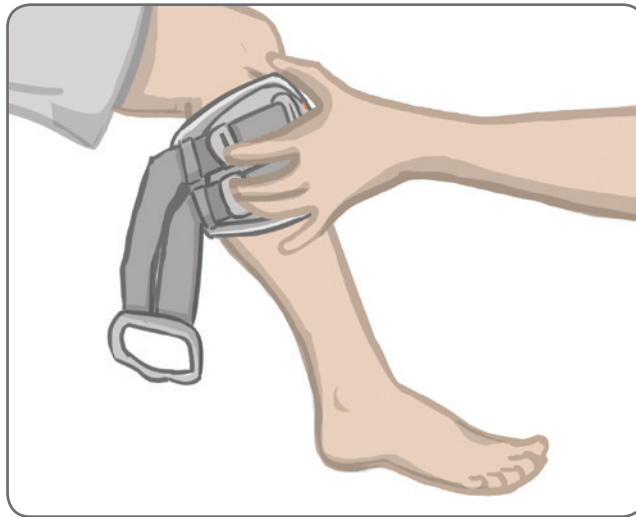

Figure 8-6: Capturing the Electrode Bases
7. Keeping the lower leg FS Cuff open, lower the bottom of the FS Cuff, allowing only the front of the FS Cuff to contact the anterior surface of the tibia. Then wrap the ends of the lower leg FS Cuff around the leg to “capture” the electrode bases. See Figure 8-6.